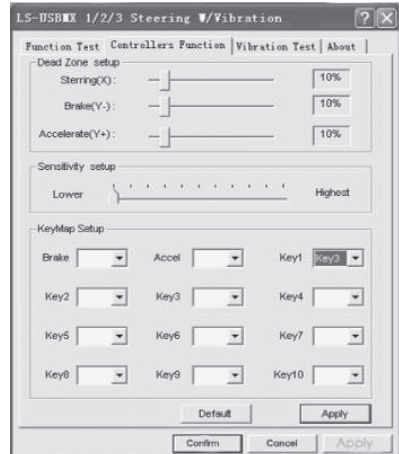

Fig. 8
- Sensitivity setup: the higher sensitivity is, the swifter and more efficient response of controller to pressing of pedals and turns of the wheel will be, therefore necessary adjustments within Lower to Higher range should be made by cursors (Fig. 8);
- KeyMap Setup reprograms functional keys: there should be chosen new necessary assignment against the key designation (Fig. 8);